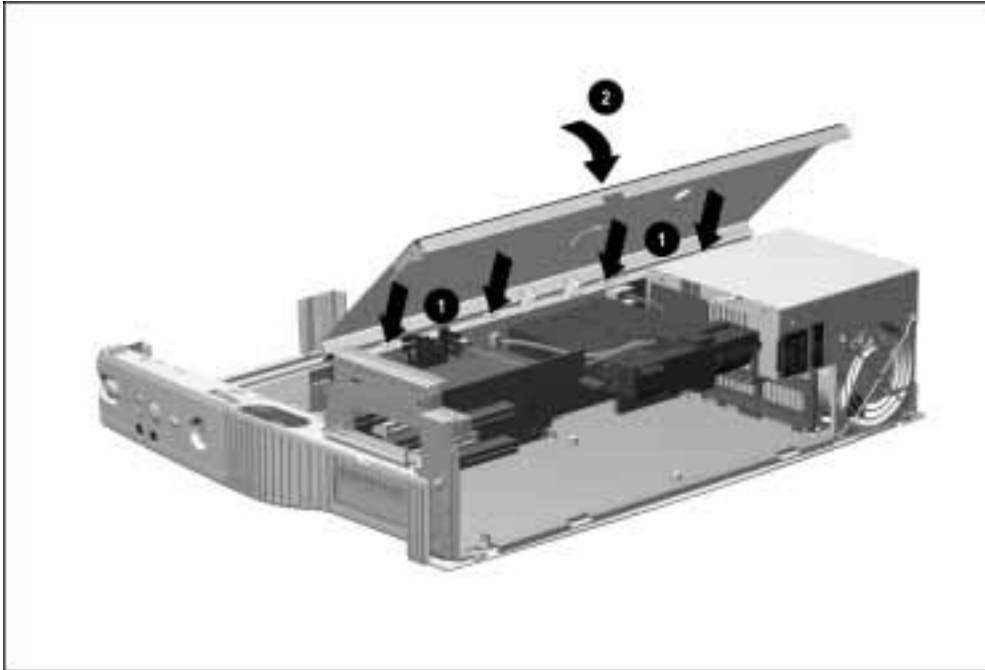

Figure 5-36. *Installing the Top Brace*
1. Align the tabs on the front of the top brace ❶ with the slots on the top of the backplane assembly (Figure 5-36).
2. Swing down the back edge of the top brace until the brace is resting on the base assembly and power supply ❷.